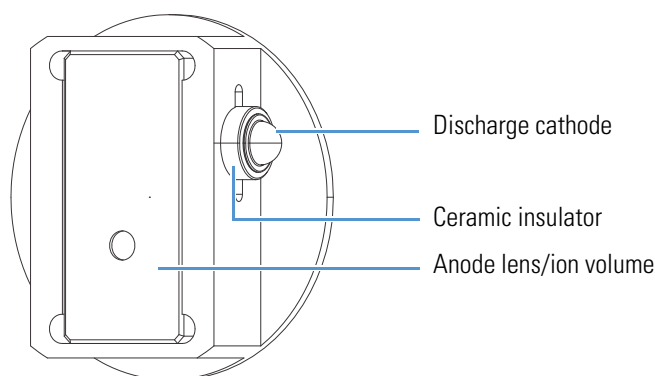

Figure A-6. Calibrant ion source (front view)
1. Make sure that the discharge cathode is fully inserted into the ceramic insulator (Figure A-6).